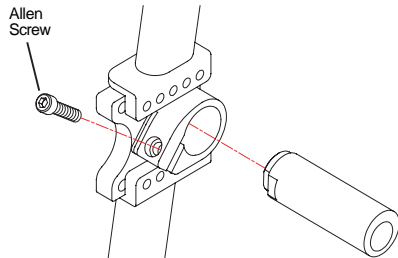

Figure 3
2. Loosen, but do not remove, the Allen Screw that secures the camber plugs to each camber clamp. See Figure 3.